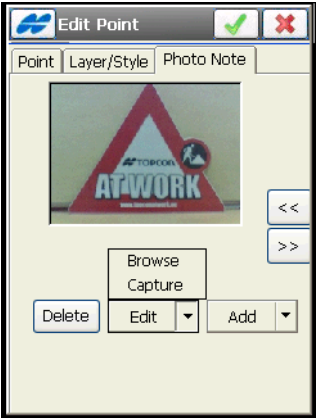

Figure 6-5. Add Photo Note
7. On the *Photo Note* tab (see Figure 6-5 on page 6-5), add a photo comment on the point.